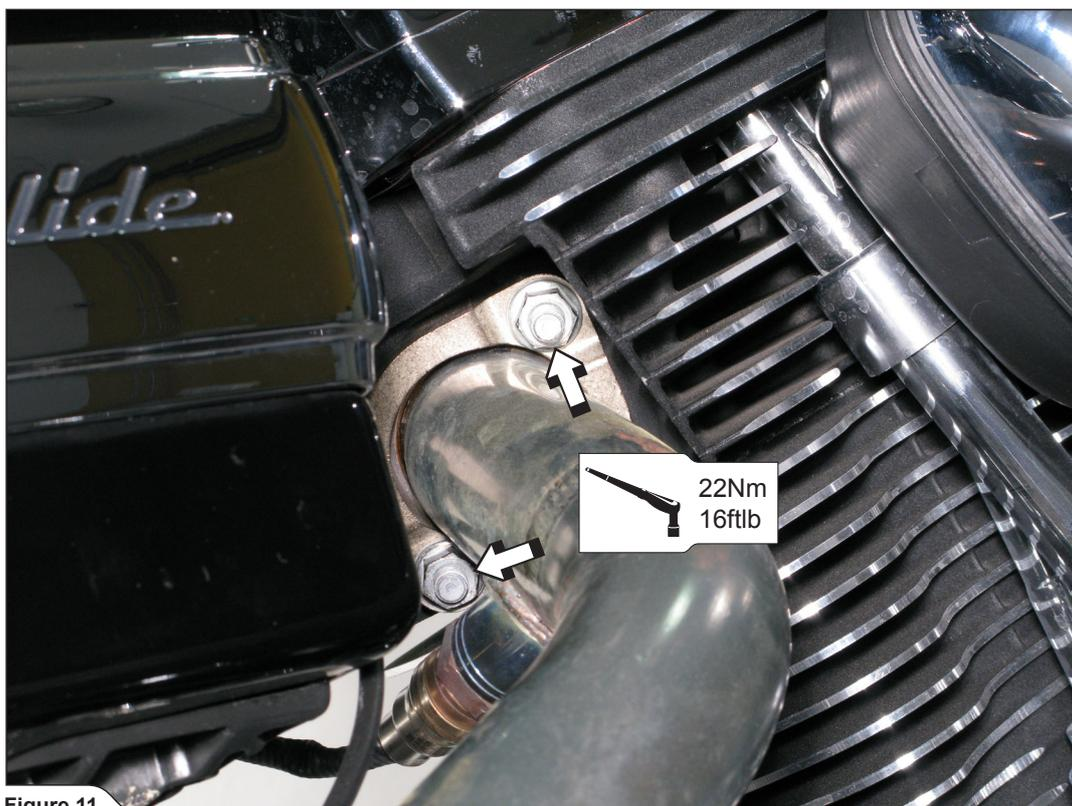

Figure 11
5. Tighten the rear header's flange to the specified torque (**Figure 11**).